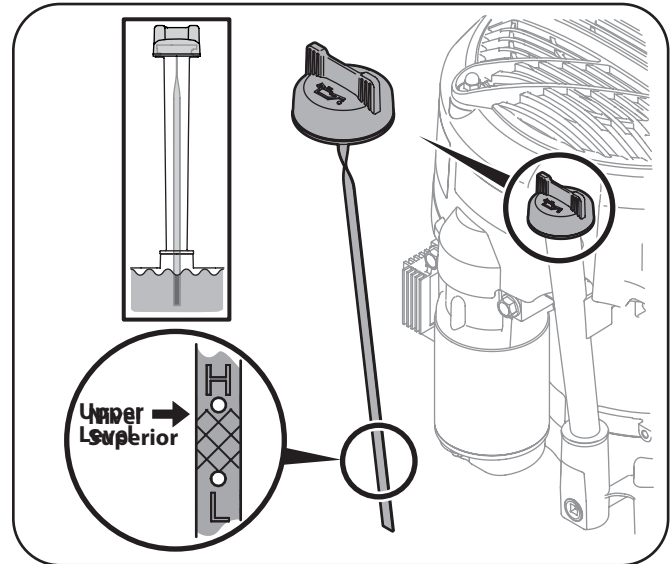

Figure 3-2
2. Insert the dipstick into the oil filler neck. Turn the dipstick a 1/4 turn into the locked position to fully seat. See Figure 3-2.
4. If the level is low, slowly add oil to the upper limit on the dipstick. See Figure 3-2 inset.